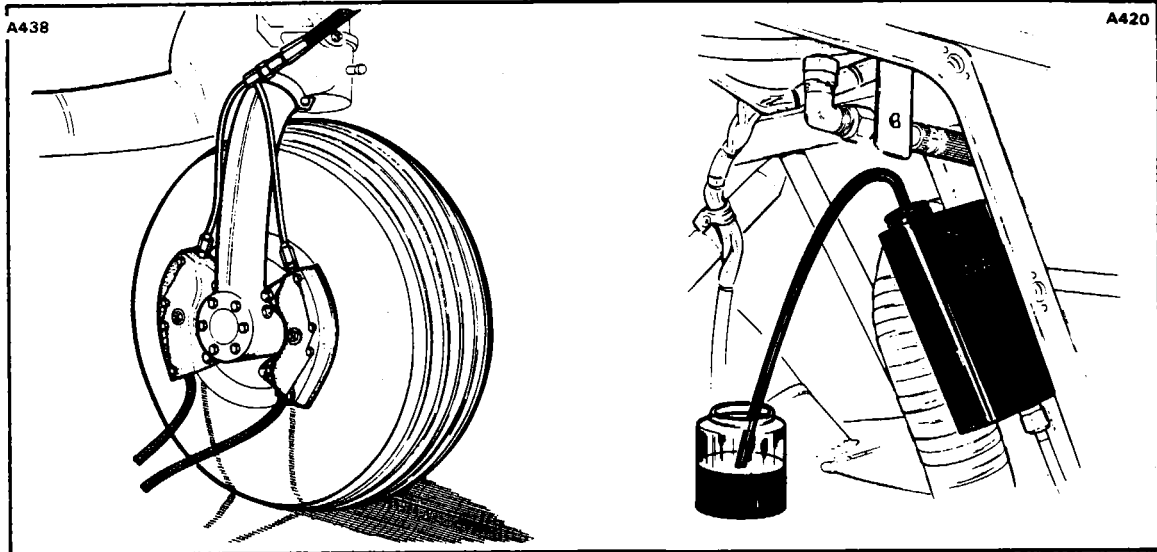

Figure 7-29. Bleeding Brakes
c. Slide a hose over the bleeder fitting, loosen the fitting one turn and pressure fill the brake system with MIL-H-5606 fluid. (Refer to Figure 7-29.)